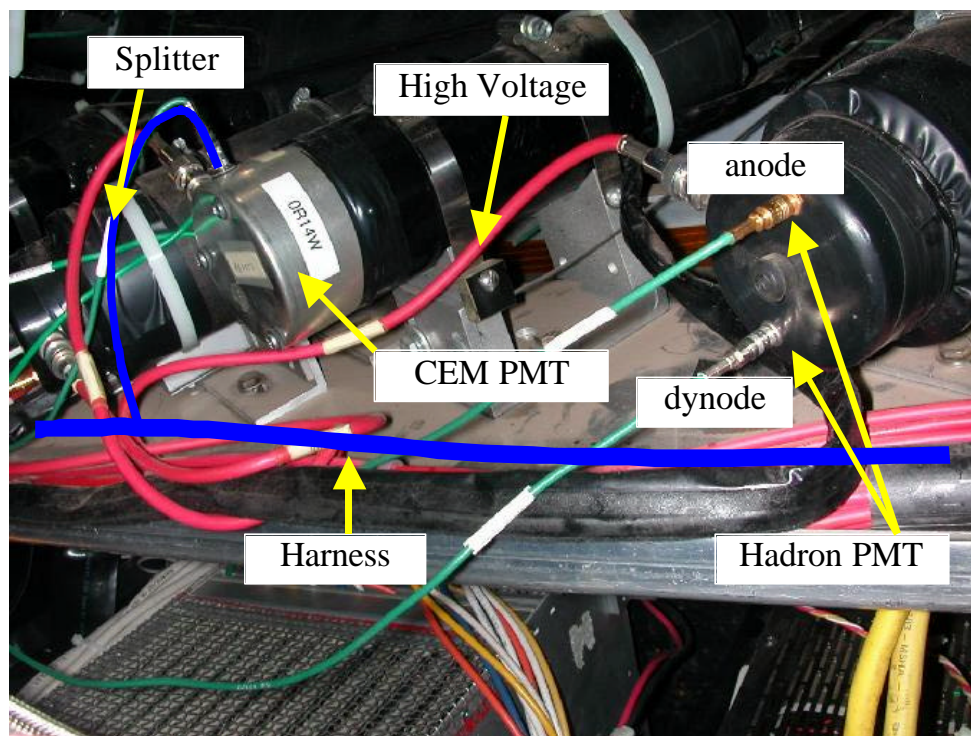

Figure 7
- Lay the half-harness along the cable tie holders and fix loosely with cable ties as shown in Figure 3. **Danger Point: It is important to not apply pressure on the lemo or HV connectors attached to the bases of the PMTs (Figure 7) or reach too far past the base of the CEM or CHA PMTs where the fibers are located.**